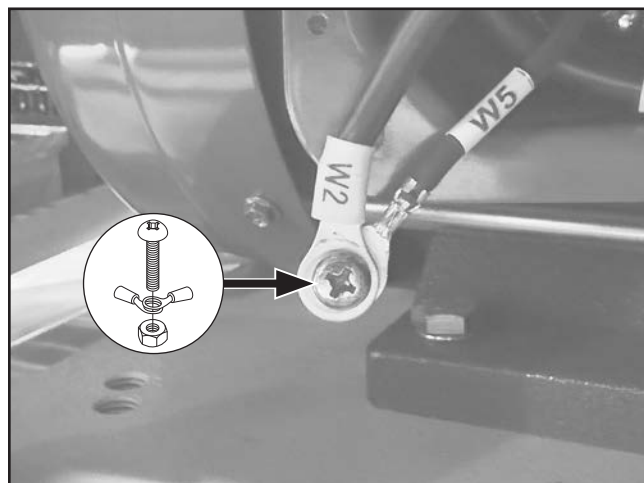

Figure 24. Wires W2 and W5 connected with (1) Phillips head screw and hex nut.
28. Connect wire U5 to wire U2 that disappears into motor with (1) M6-1 x 12 Phillips head screw and M6-1 hex nut, as shown in **Figure 24**, then wrap screw and nut with heat transfer tape and electrical tape.
29. Connect wire V5 to wire V2 that disappears into motor with (1) M6-1 x 12 Phillips head screw and M6-1 hex nut, as shown in **Figure 24**, then wrap screw and nut with heat transfer tape and electrical tape.
30. Connect wire W5 to wire W2 that disappears into motor with (1) M6-1 x 12 Phillips head screw and M6-1 hex nut, as shown in **Figure 24**, then wrap screw and nut with heat transfer tape and electrical tape.